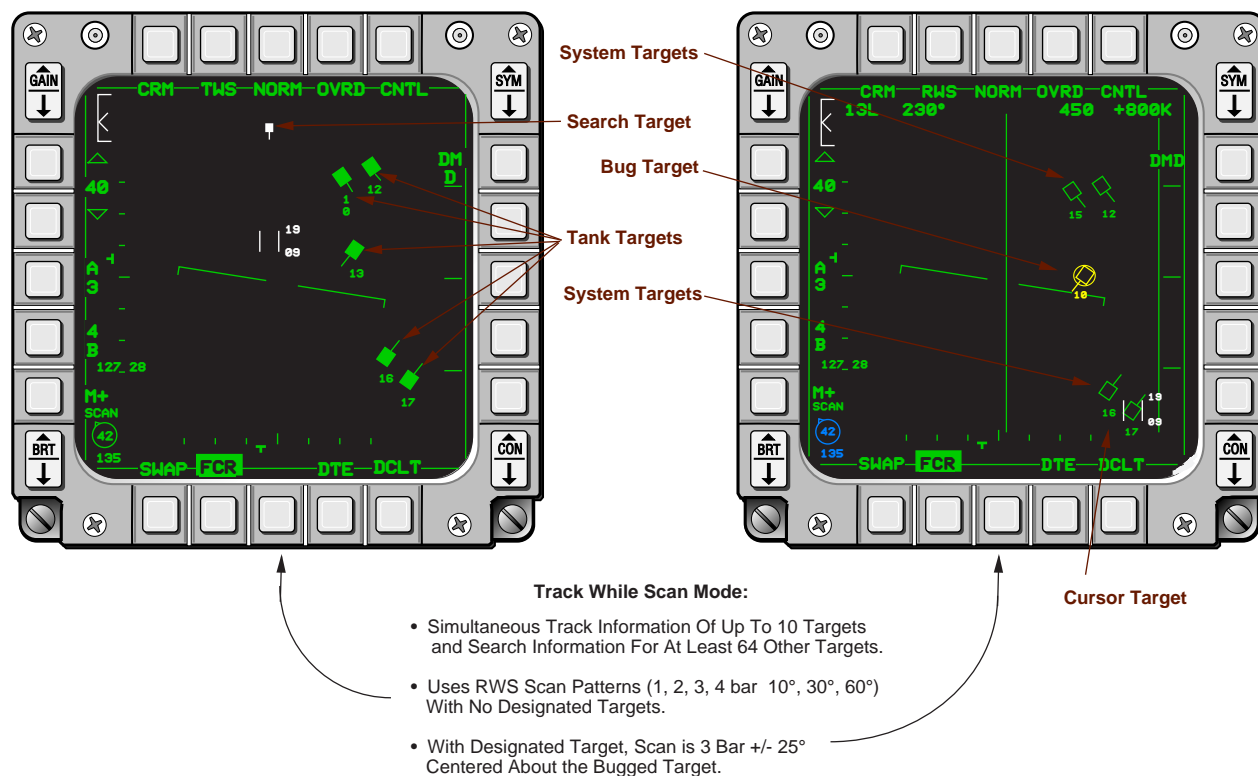

Figure 3-4 Track While Scan Mode
**Track While Scan (TWS) Submode.** CRM TWS can be selected hands-on from RWS, SAM, TTS, STT by doing a TMS-right and hold for more than 1 second (Figure 3-4). Hot lines and search target histories are placed on search targets as in RWS, and when no target(s) are designated, the available TWS search volumes are the same as RWS. However, the scan volume decreases to 3 bar +/- 25 degrees once a target has been bugged.